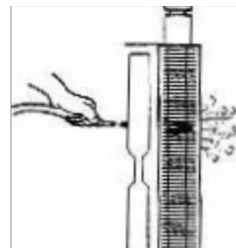

Fig.5.14
1. Periodically check to make sure that the radiator (Fig. 5.14) is not clogged.